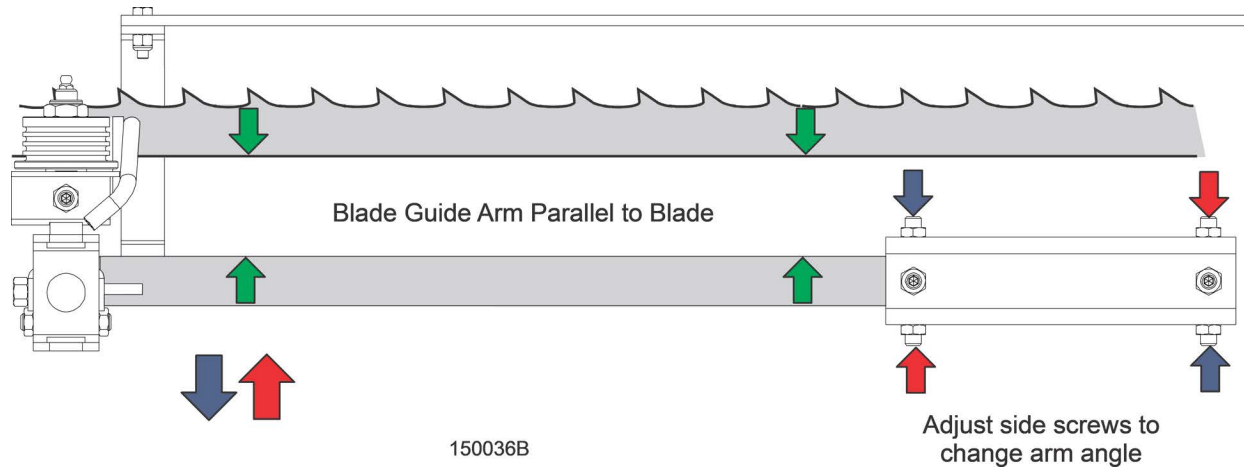

FIG. 5-3
6. With the blade guide arm still all the way in toward the other blade guide, tighten all the side screws until they touch the arm. See FIG. 5-3.